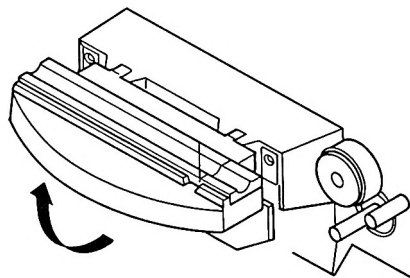
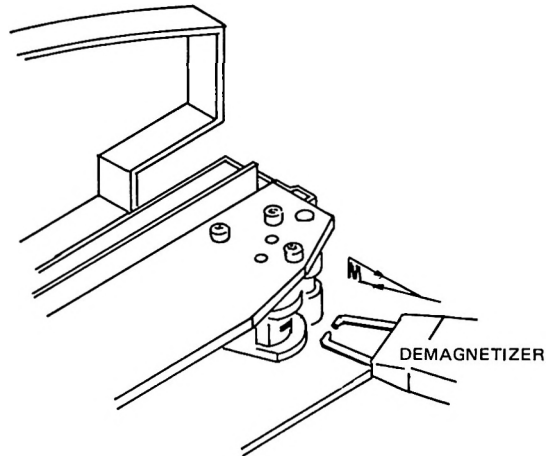

Fig. 4-1 Lifting the Head Cover
Fig. 4-2 Demagnetizing
- (1) Lift the head cover as illustrated in Fig. 4-1.
- (2) Clean each head stack thoroughly with a cotton-tipped applicator dampened with head cleaner.
(1) Turn the unit's power off and remove any recorded tape near the transport. The tape could be partially erased by the demagnetizer.
(2) Lift the head cover as illustrated in Fig. 4-1.
(3) Cover the demagnetizer tips with adhesive tape to prevent scratching the head stacks.
(4) With the demagnetizer held away from the transport, connect the demagnetizer to a power source.
(5) Move the demagnetizer tips slowly close to the head, lightly touch the face of one head stack and slowly move the tips up and down the stack several times. Then slowly withdraw the demagnetizer as shown in Fig. 4-2.
(6) Repeat step (5) for each head stack.
(7) Repeat the procedure in step (5) for each guide and other metallic parts in the tape path.
(8) Move the demagnetizer slowly away from the transport at least three feet, and then disconnect the power from the demagnetizer.